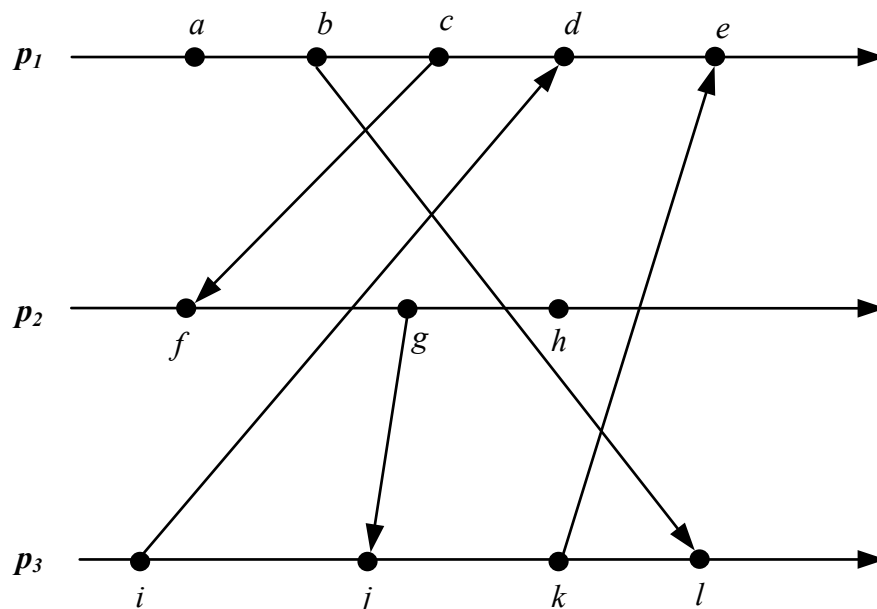

Figure 2.
- b) Assign vector clocks to the events in the process diagram in Figure 2.